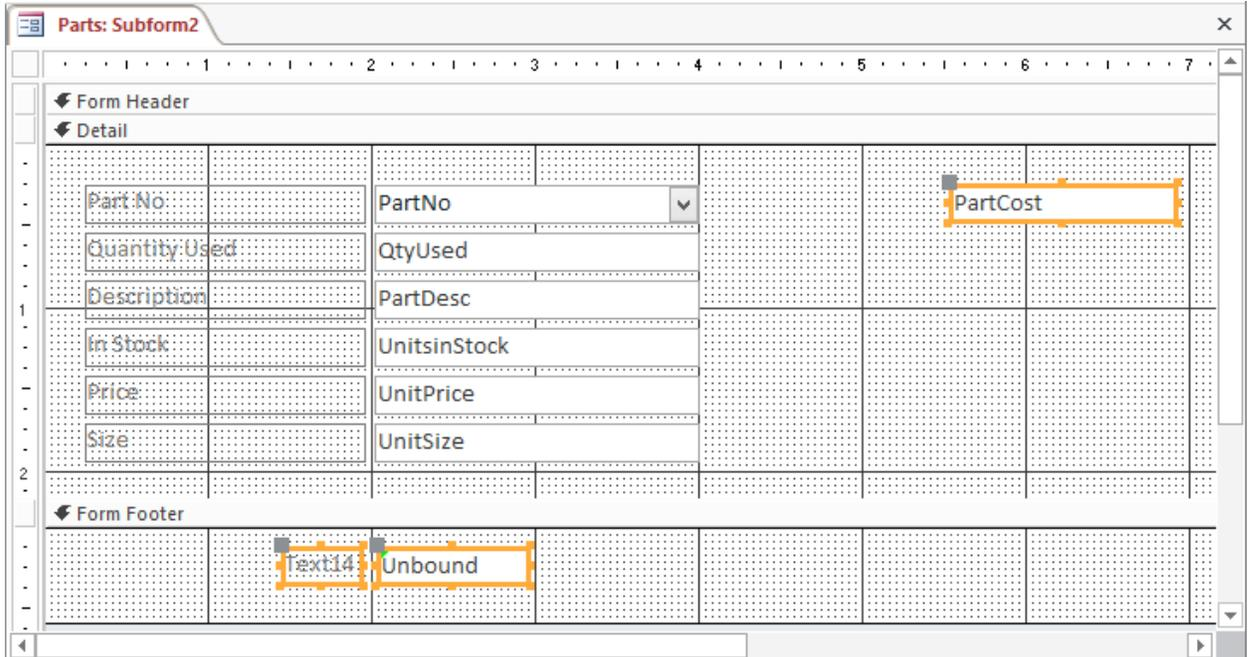

Figure 26: Textbox Added in the Subform Footer
6. Add a Textbox in the Subform Footer: The costs for all the parts must be computed in the subform before the total cost can be referenced in the main form. Since this textbox should not appear in the subform, place it in the form footer of the subform, as depicted in Figure 26. You will find it easier to add the textbox in the footer of the subform if you first open the subform in design view in a separate window.